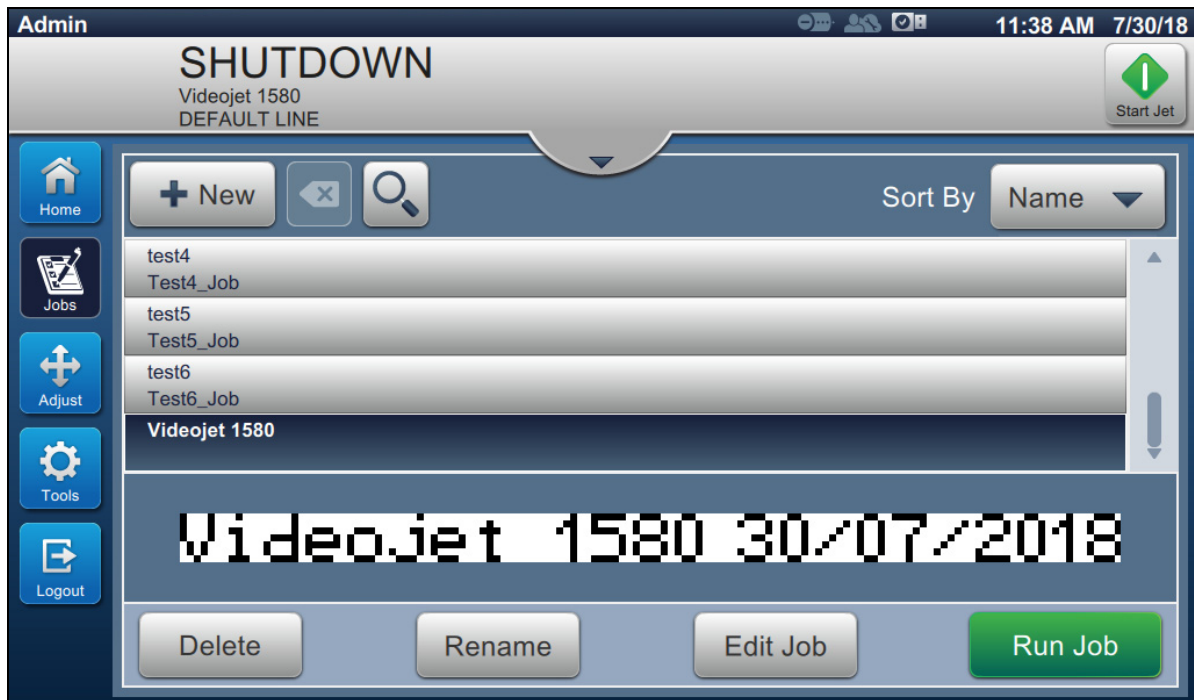

Figure 5-1: Job List Screen
1. Touch the  button and the Job List screen opens as shown in the Figure 5-1.